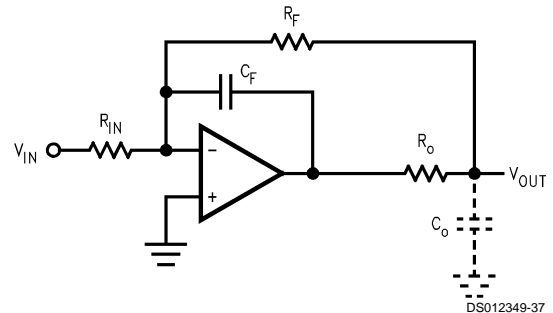

FIGURE 6.
*Figure 6* shows a method for compensating for load capacitance ( $C_o$ ) effects by adding both an isolation resistor  $R_o$  at the output and a feedback capacitor  $C_f$  directly between the output and the inverting input pin. Feedback capacitor  $C_f$  compensates for the pole introduced by  $R_o$  and  $C_o$ , minimizing ringing in the output waveform while the feedback resistor  $R_f$  compensates for dc inaccuracies introduced by  $R_o$ . Depending on the size of the load capacitance, the value of  $R_o$  is typically chosen to be between  $100\Omega$  to  $1\text{ k}\Omega$ .